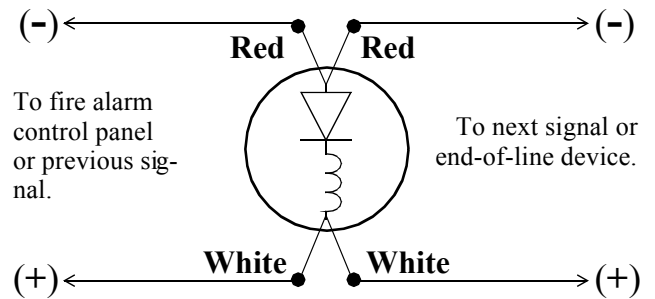
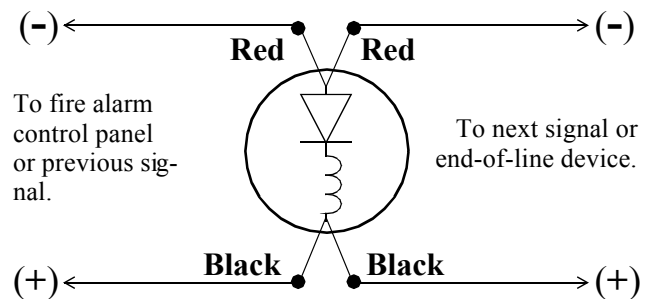

Figure 3. Wiring Diagram for Catalog Series 438DEX AC Bells.
Figure 4. Wiring Diagram for Catalog Series 439DEX DC Bells.
5. Connect the signaling circuit wires to the bell wires per the applicable wiring diagram. For 438DEX series AC bells, see Figure 3. For 439DEX series DC bells, see Figure 4. Make wire connections using wire nuts. Also, refer to the applicable installation instructions for wiring connections used in the fire alarm control panel for additional wiring connection details. Connect only two wires per wire nut at each connection. Do NOT twist wires together.